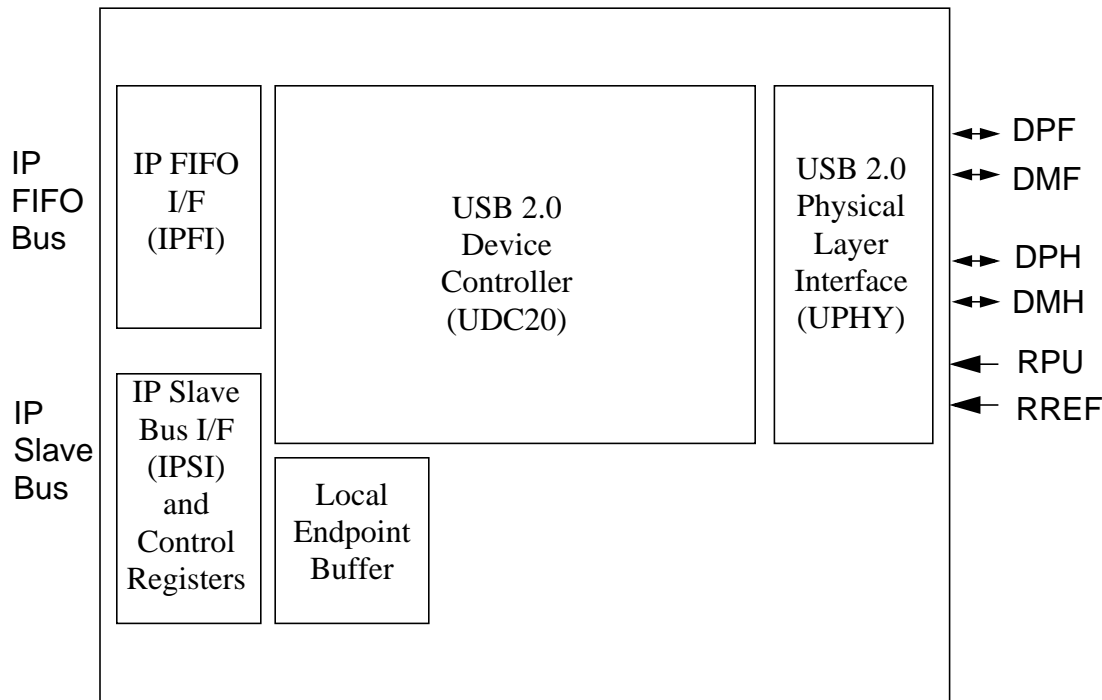

Figure 1-1 USB20 Block Diagram
**Figure 1-1** is a high level block diagram of the USB20 module, showing the interaction of various functional blocks.